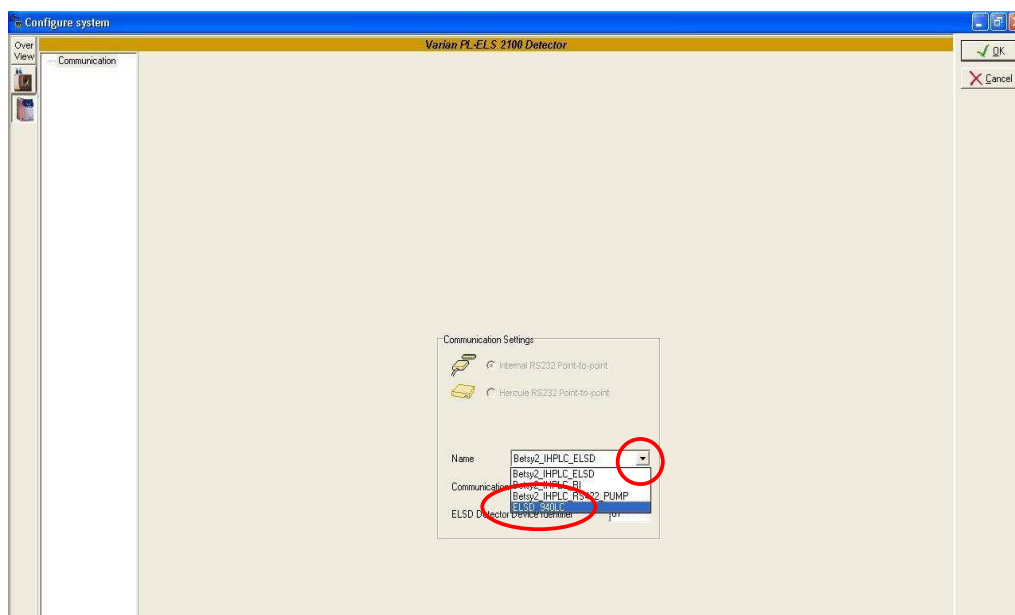

Figure 10: ELSD Communication Settings
12. The following picture appears (Fig 10). It is here that you have to set up the protocol layer that the ELSD standalone driver is going to use.
13. Click on the **NAME** pull down menu and select the protocol layer that was set up earlier called ELSD_940LC (Fig 10).